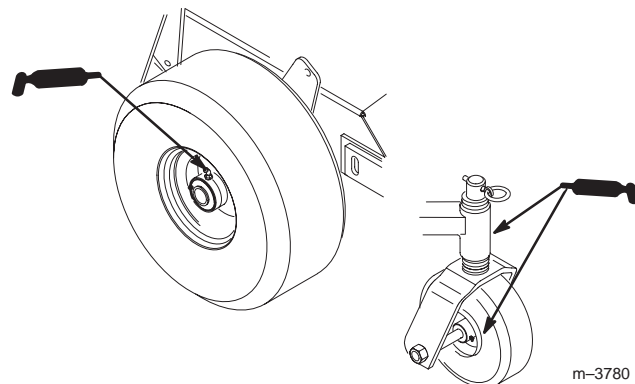

Figure 40
1. Lubricate the drive and caster wheel bearings and front spindles (Fig. 40) after every 8 operating hours.